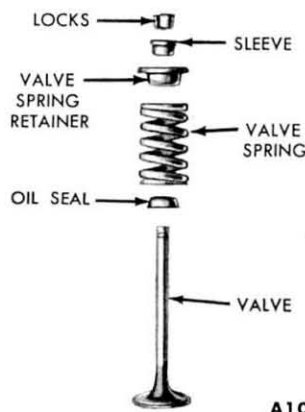

FIG. 19—Valve Assembly
2. Install each valve (Fig. 19) in the valve guide from which it was removed or to which it was fitted. Install a new stem seal on the valve.